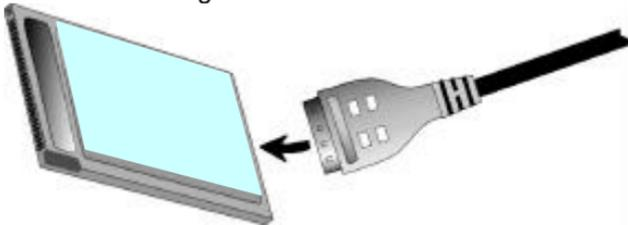

Figure 2-3.2 Plug 15-pin Flat connector to 15-pin Mating Connector
3. Plug the Ethernet adapter cable to the 15-pin connector on the card as shown in Figure 2-3.2.